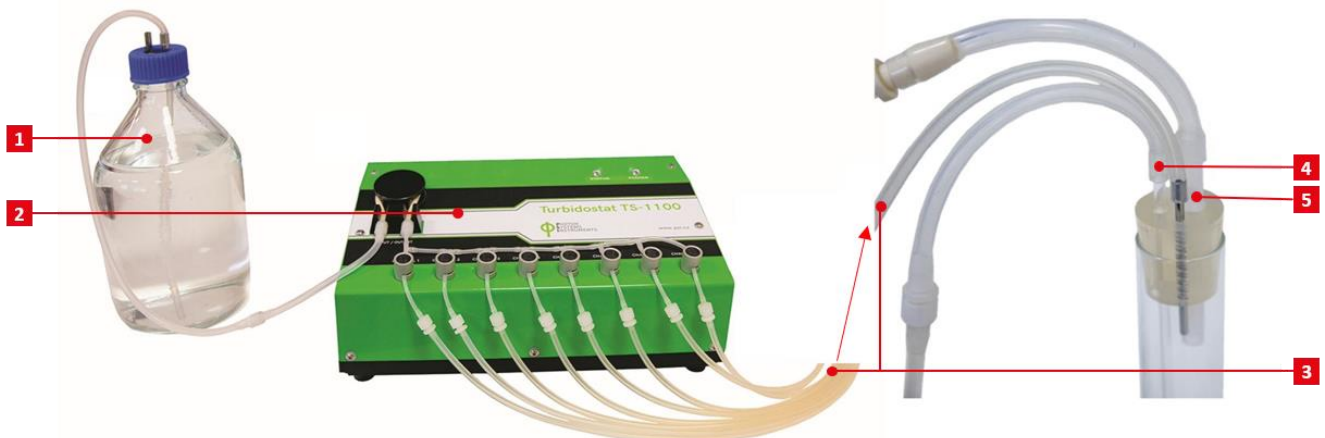

Fig. 10 Connection of Turbidostat module.
- Connect the input of the medium dispenser tubing to the fresh medium stock bottle (see Fig. 10 - 1). Use the plastic lid with two ports, silicone ring and silicone tubing (\varnothing 3/6 mm) for this purpose. One port is intended for fresh medium supply and the other port has to stay open to prevent a formation of negative pressure in the bottle as the medium is pumped out. It's possible to use a suitable filter for the open port to prevent a contamination.